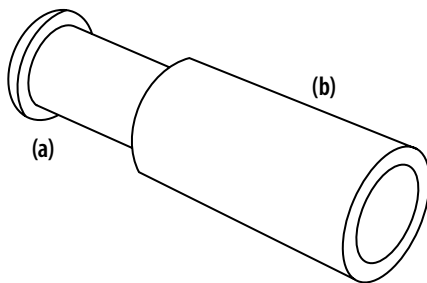

Figure 5-27
4. Remove the inner filter (a) from the paper element (b). See Figure 5-27.